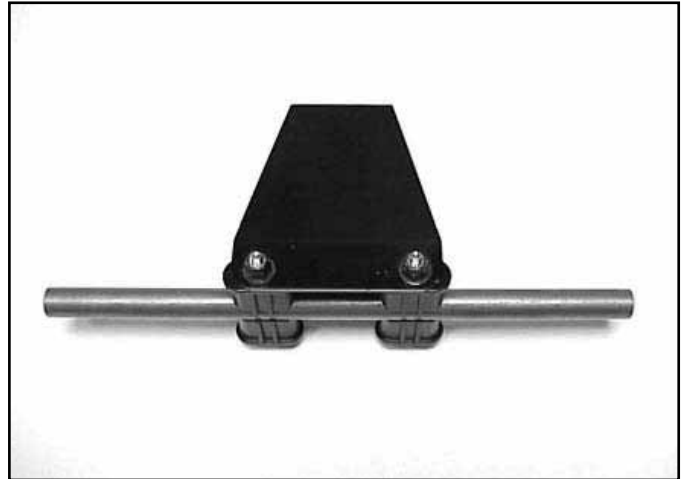

Fig 194
5. Install the 4 guide collars to shaft with shift brace plate (Fig. 194).